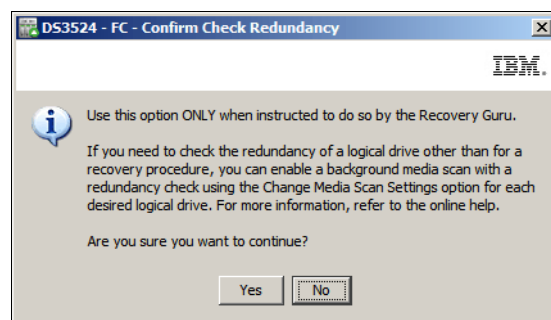

Figure 14-152 Confirm Check Redundancy
- The window shown in Figure 14-152 will be displayed.